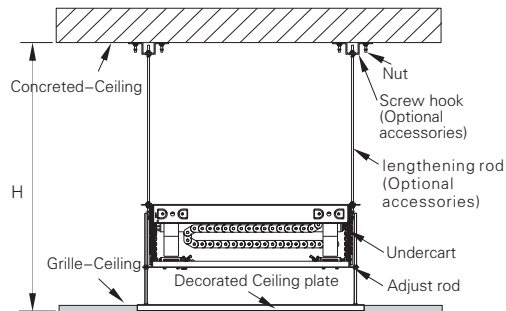

Figure 4 High Ceiling
B. If $H > H1$ (Supposed it's Maximum H2), need lengthening bar (Optional accessories) to install. Check Figure 4.